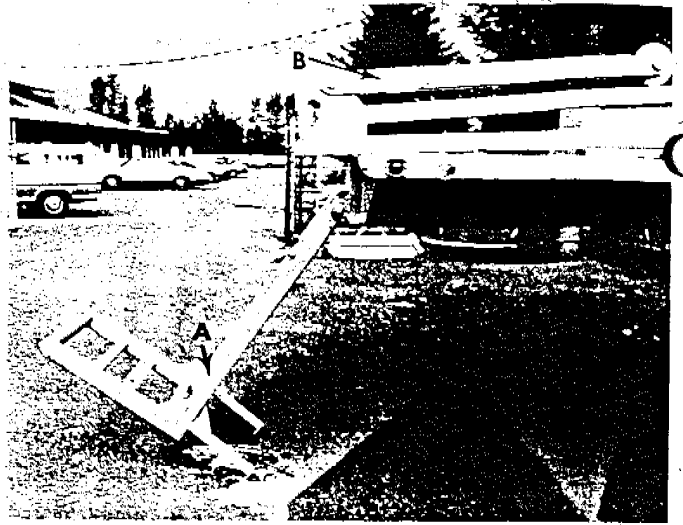

Fig. 41
- g. Unpin the car rack (a) and lower it to the ground. (Fig. 41)
- h. Wrap the sling around the other car and swing it to the platform. Secure the car to an arm. PIN AND SNAP KEY IN PLACE. CAUTION: Be sure the jib crane (a) and the car rack (b) are in a down position while the ride is in operation. (Fig 41)